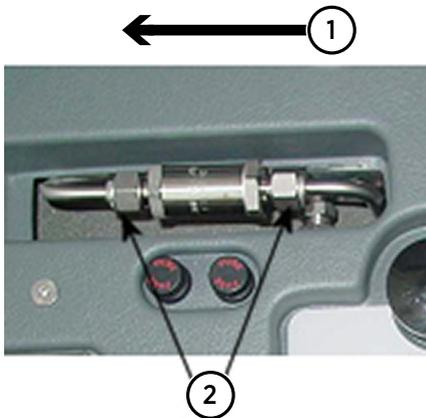

Figure 25 Changing the filter
2. Unscrew the nut of sample cell. See Figure 25 \(page 56\).
4. Replace the filter and tighten the nuts. The direction of the arrow on the filter must match the direction of the arrow on DSS70A. See Figure 25 \(page 56\).